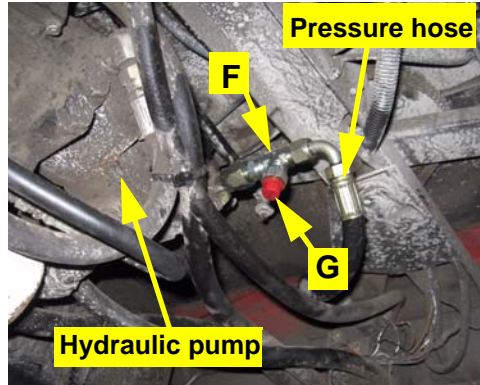

Figure 3b: Installed pressure fitting
- b. Locate the pressure hose on the side of the hydraulic pump. Install the run-tee adapter fitting **F** between the rubber hose and the hydraulic pump (Figure 3b).
- c. Install the reducer fitting **G** to the branch of the run-tee fitting **F** (Figure 3b).